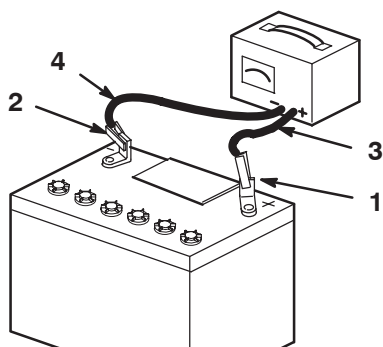

Figure 65
4. When the battery is fully charged, unplug the charger from the electrical outlet, then disconnect the charger leads from the battery posts (Fig. 65).